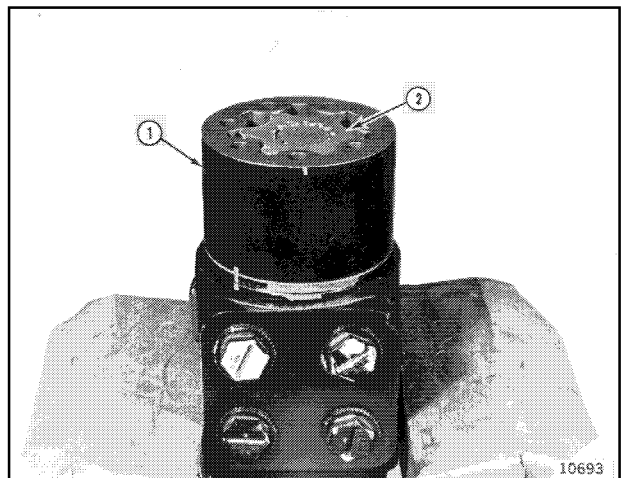

Figure 33
17. Align match marks and install gerotor (1, Figure 33) with O-ring down, over star gear (2).